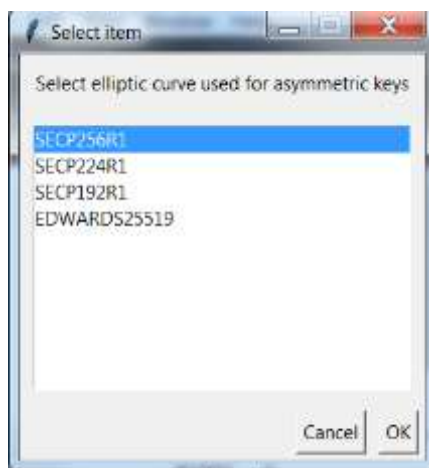
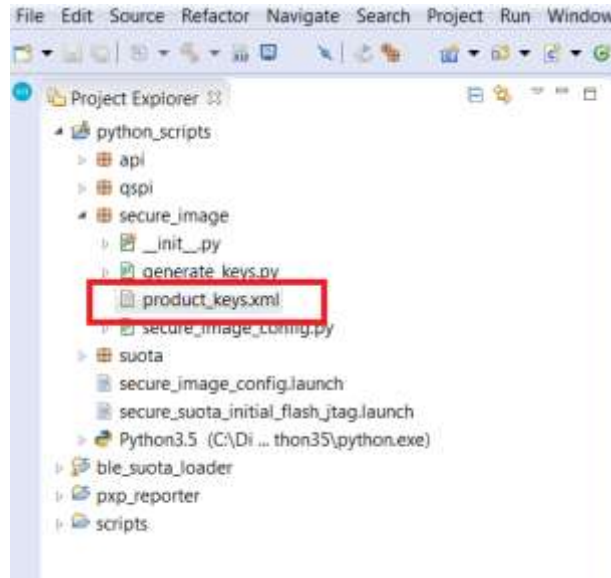
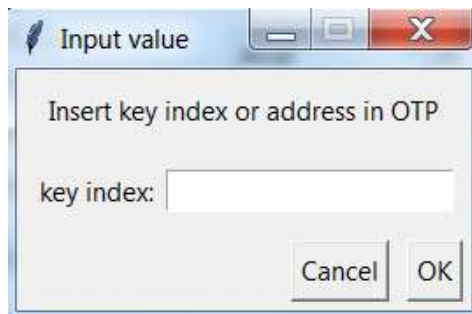
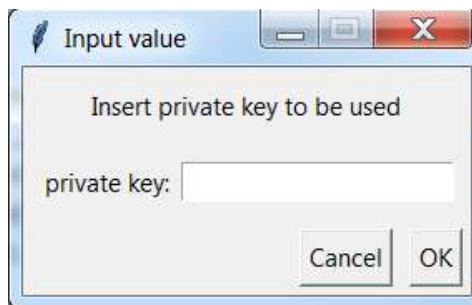

Figure 52: elliptic curves used for creating asymmetric keys
Figure 53: generated *product_keys.xml* file
Figure 54: inserting private key index or address
Figure 55: inserting private key value
5. After selecting “Yes” in the previous dialog next window, Figure 52, pops out. User must decide, which type of elliptic curve would like to use for creating asymmetric keys. The curve will be used during an asymmetric key generation and image signature generation. After this procedure completes, product_keys.xml file will be generated in python_scripts project in secure_image subdirectory (Figure 53).
Note 20 By selecting “No” in Figure 52 the user must provide the private key manually by inserting a private key index and its value as shown in Figure 54 and Figure 55.